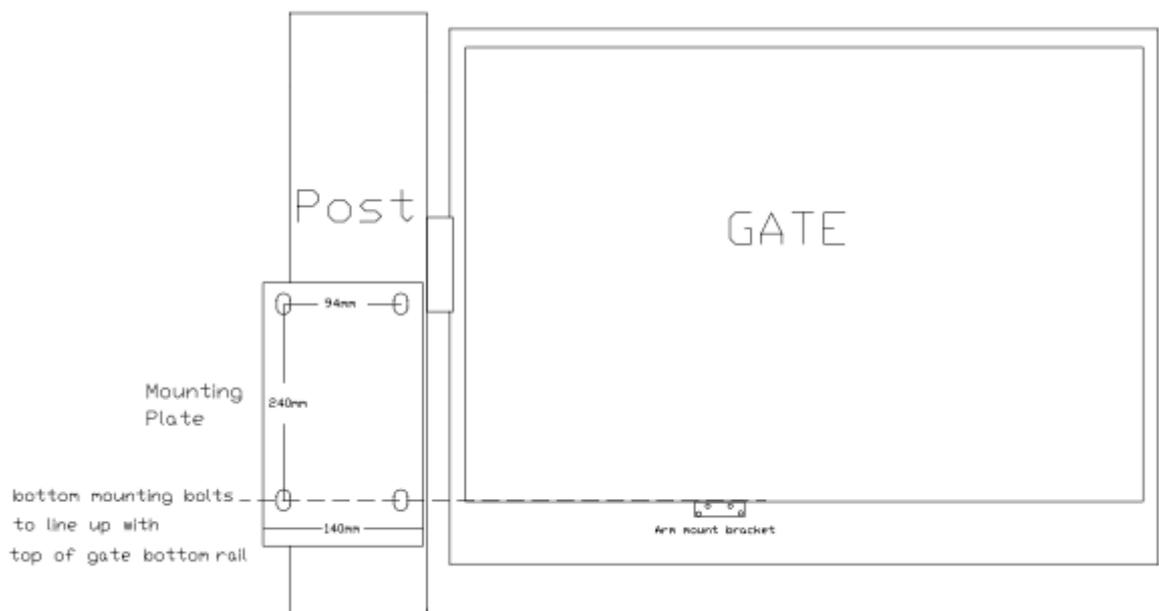

Figure 2: Position of Operator
3. Position each unit on the gate pillars or posts approximately 50mm from the edge of the pillar. The vertical position is found by locating the gate bracket. This is best placed where there is adequate fixing on the gate and movement of the arms is unrestricted (Figure 2). The units may now be bolted in place.